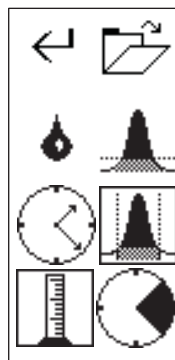

Figure 3-3 Basic method settings
3. From the method settings display, verify that the only the VOLUME and PEAK WIDTH options are active as shown in Figure 3-3. If not, disable the other active features.